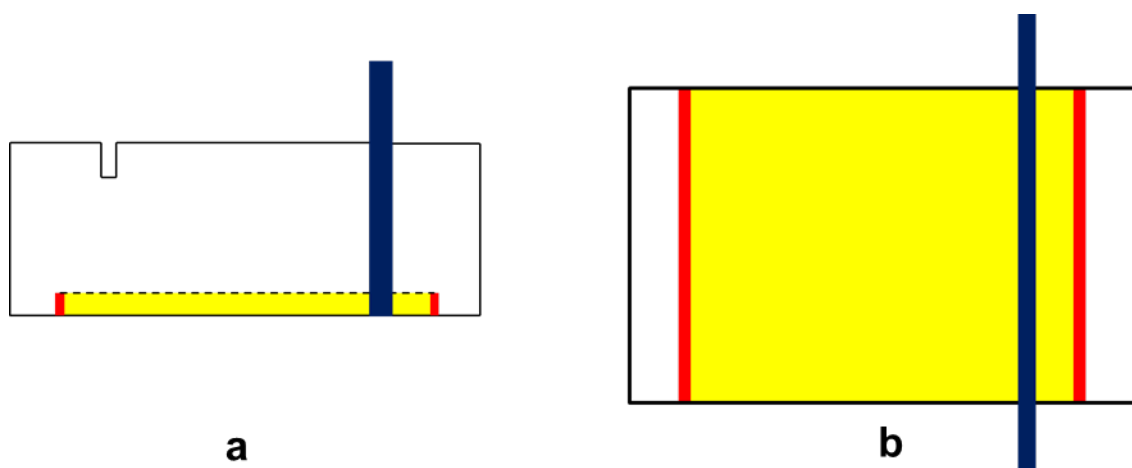

Figure 11: Side view (a) and top view of the gel chamber (b). The yellow area represents the area to be filled by the agarose.
5. While the agarose is still melted, carefully pour it into the gel chamber until it reaches the top of the two inner chamber walls. Only pour enough agarose to fill the area between the two raised inner walls of the chamber (Figure 11).